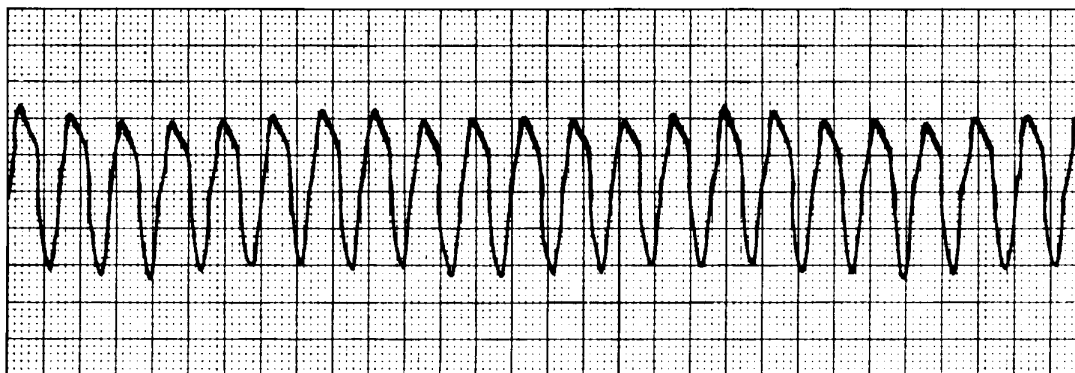

Figure 3-5
- (b) Ventricular Tachycardia. V-Tach is a ventricular arrhythmia characterized by broad QRS complexes and a regular rate that falls between 100 to 200 beats per minute. Immediate correction is essential, as V-Tach may lead to V-Fib (see Figure 3-5).